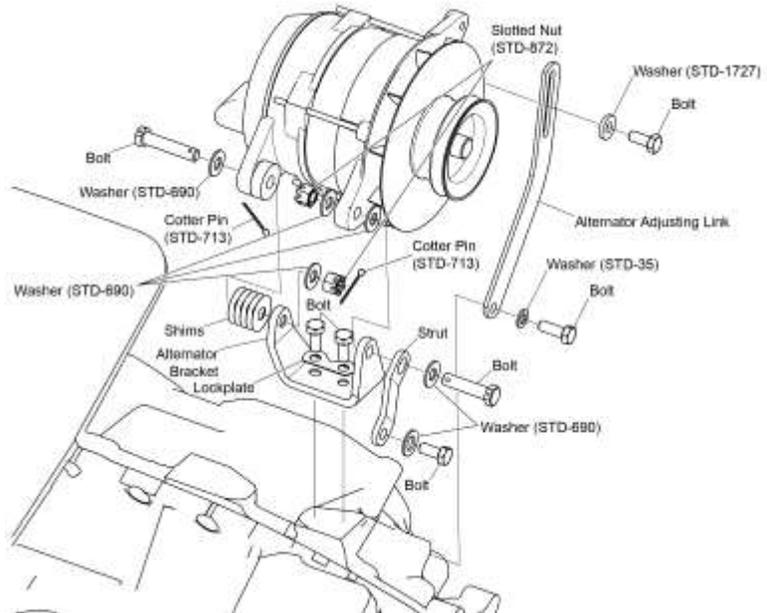
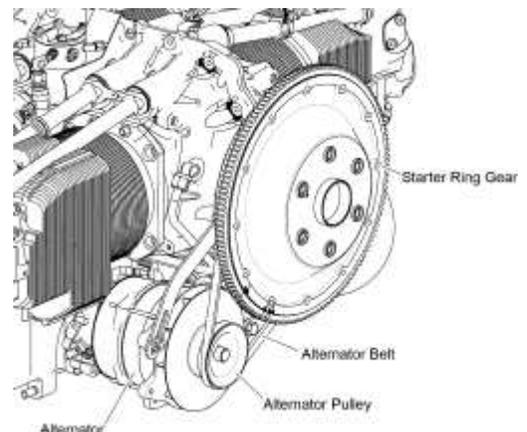

Figure 5
Figure 6
- (2) Loosen the bolt that attaches the alternator adjusting link to the alternator (Figure 5).
- (3) Loosen the bolt that attaches the alternator adjusting link to the crankcase.
- (4) Rotate the alternator on the bracket to adjust the alternator belt tension.
- (5) Torque the two bolts on the alternator adjusting link to 17 ft.-lb. (23 Nm).
- (6) Torque the idler pulley nut to 75 ft.-lb. (101 Nm).
- (7) Complete a check of the alternator belt tension per the applicable method in this chapter.
- (2) Remove the two bolts and two different washers (STD-1727 and STD-35) from the alternator adjusting link (Figure 5).
- (3) Remove the alternator adjusting link.
- (4) Remove the two cotter pins (STD-713), two bolts, two slotted nuts, shims and three washers from the alternator bracket, strut, and alternator (Figure 5). Discard the cotter pins and slotted nuts.
- (5) Remove the alternator and alternator belt.
- (1) Remove the two bolts and lockplate from the alternator bracket (Figure 5).
- (2) Remove the two bolts and washers (STD-690) from the strut and alternator bracket.
- (3) Remove the strut and alternator bracket.
- (1) Mount the alternator bracket on the engine.
- (2) Install the lockplate with two bolts and washers on the alternator bracket (Figure 5). Torque the bolts to 17 ft.-lb. (23 Nm).
- (3) Bend the tabs of the lockplate against the bolts.
- (4) Attach the strut to the alternator bracket with the two bolts and washers. Torque the bolts in accordance with the latest revision of the *Service Table of Limits SSP - 1776*.
- (1) Mount the alternator on the alternator bracket (Figure 5).
- (2) Install the bolt, two new slotted nuts, shims (as many as necessary) and three washers on the alternator bracket and alternator as shown in Figure 5. Install a new cotter pin (STD-713) in each new slotted nut.
- (3) Install the alternator adjusting link with the two bolts and different washers (STD-1727 and STD-35) where shown in Figure 5.
- (4) Examine the alternator belt per “Alternator Belt Inspection” in this chapter.
- (5) Install the alternator belt on the alternator per the “Alternator Belt Installation” procedure in this chapter.
- (3) Loosen the bolt that attaches the alternator adjusting link to the crankcase (Figure 5).
- (4) Rotate the alternator on the bracket towards the starter ring gear.
- (5) Remove the alternator belt from the alternator pulley and the starter ring gear support (Figure 6).
- (1) Install the alternator belt in the alternator belt groove on the starter ring gear support.
- (2) Install the alternator belt in the groove on the alternator pulley (Figure 6).
- (3) Adjust the alternator belt tension. Refer to the “Alternator Belt Tension Check/Adjustment” procedure in this chapter.
- (4) Torque the bolts that attach the alternator adjusting link to the alternator and to the crankcase to (Figure 5) to 17 ft.-lb. (23 Nm).